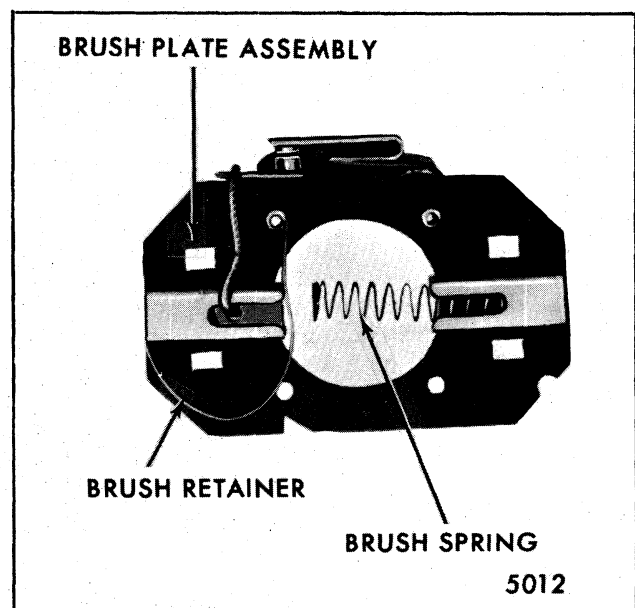

Fig. 2-40-Brush Plate Assembly - Removed
5. Position the partially assembled brush plate (Fig. 2-40) over the armature shaft far enough to allow reassembly of the remaining brush in its brush holder; then position the brush plate assembly on the mounting tabs in the position shown in Figure 2-30.